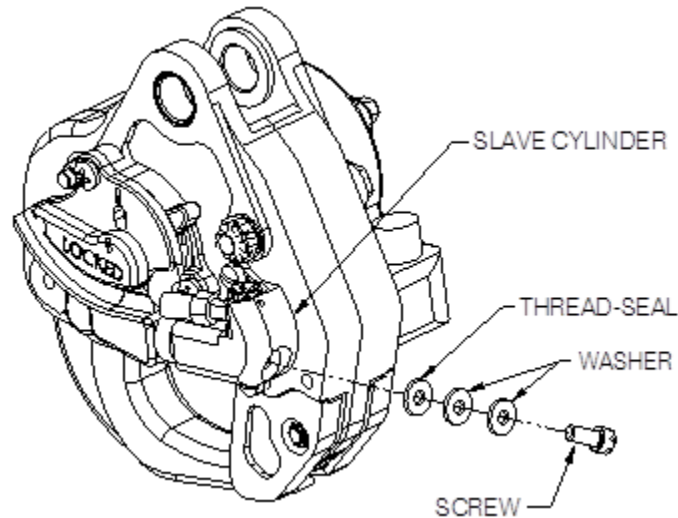

Figure 5.17 Screw, Washers, and Thread Seal Removal
- Remove the screw, washers and thread seal on the slave cylinder. See Figure 5.17.